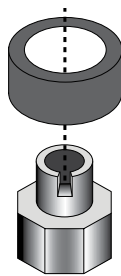

FIGURE 1
- Figure 1, Install magnet sleeve over distributor shaft, onto point cam. Rotate sleeve until a slight locating position is felt before applying pressure. With magnet sleeve lined up on point cam, press down firmly insuring sleeve is fully seated.